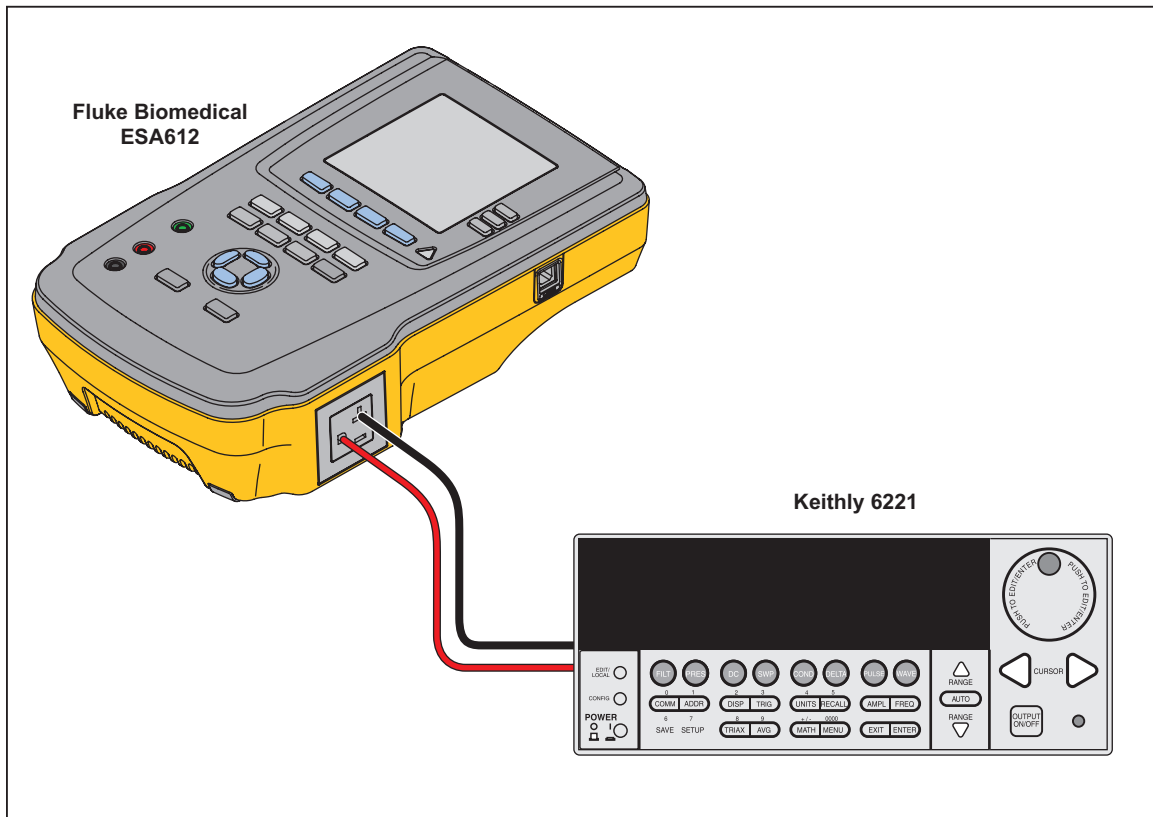

Figure 3-35. GFI Calibration Connections
1. Connect the current source to the EO neutral and EO ground as shown in Figure 3-35. Set the current source to 5.0 mA (7.071 mA p-p), 60 Hz with a 40 V compliance voltage.